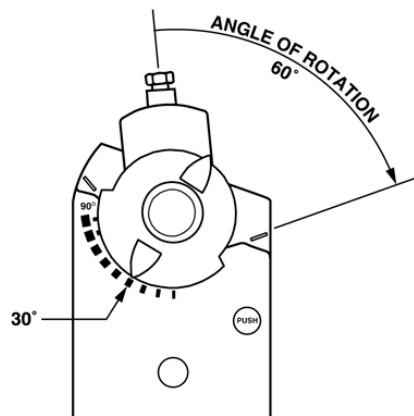

Figure 15
7. Figure 15. Remove the shaft adapter and insert it with the position indicator pointing to mark on the scale calculated in the previous step.